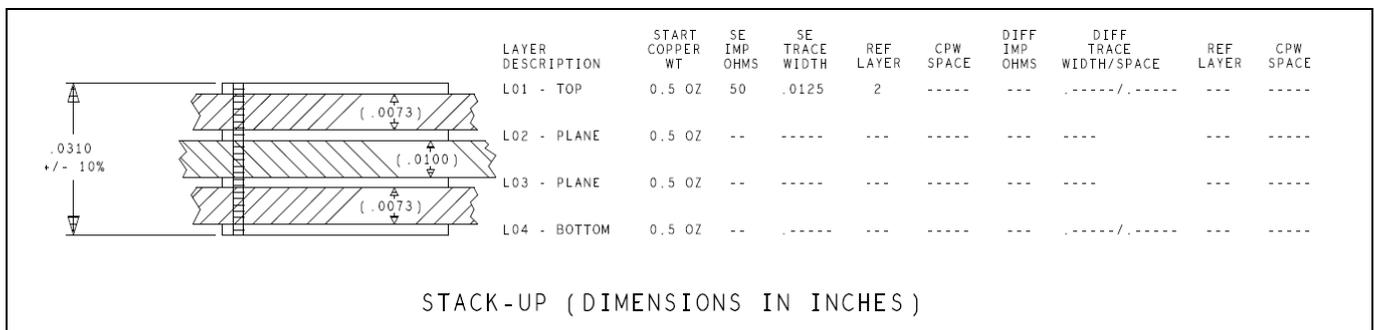

Figure 1 Typical board stackup used for CYW208xx
- Thinner traces have higher insertion loss – PCB fabrication requires adequate trace width for reliability and repeatability. Heights between the microstrip and ground should be maintained per the stack up shown in **Figure 1** to maintain 50-ohm impedance control.
This reference design uses a four-layer PCB with a stackup as shown in **Figure 1**: